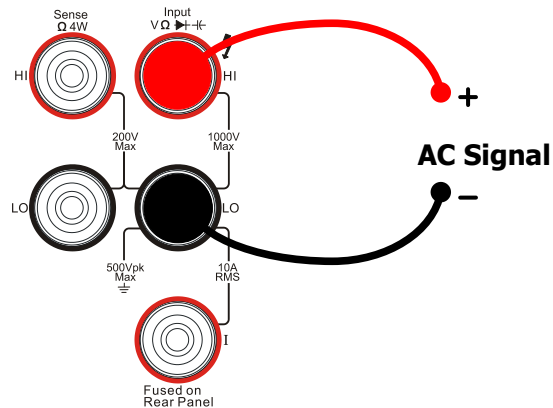

Figure 2-30 Sketch map for connecting
1. Connect test leads as shown in figure 2-30. Red test lead connects with Terminal HI; Black test lead connects with Terminal LO.